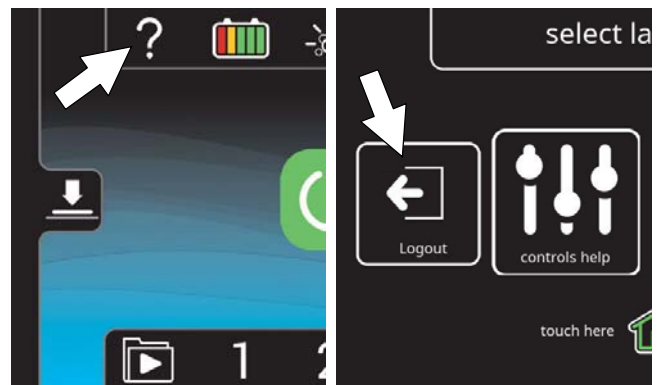

FIG. 171
7. When the user is done operating the machine, it is recommended the user log out by pressing the help button, and then pressing the logout button (Figure 171). Turning the key to the off position is another way to also logout